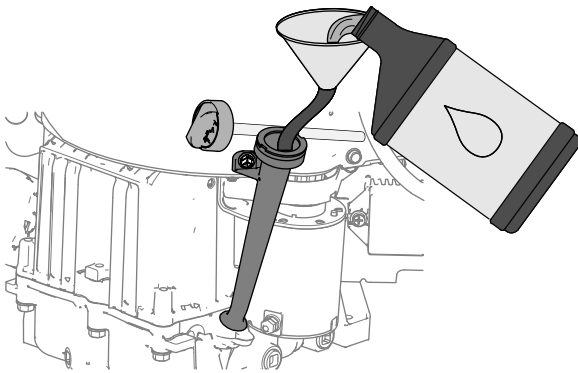

**Figure 76**
1. Remove the dipstick from the filler neck of the engine and wipe the dipstick and filler neck with a clean rag (Figure 76).
3. Insert the dipstick into the filler neck and tighten the dipstick Figure 76.
4. Remove the dipstick from the filler neck and look at the oil level in the dipstick (Figure 76).